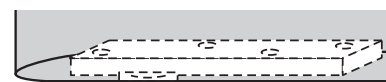

Figure 5
3. Install door arm in bottom of door using four (4) 1/4-20 x 5/8" FHMS or #14 x 1-1/2" FHWS. (Figure 5)